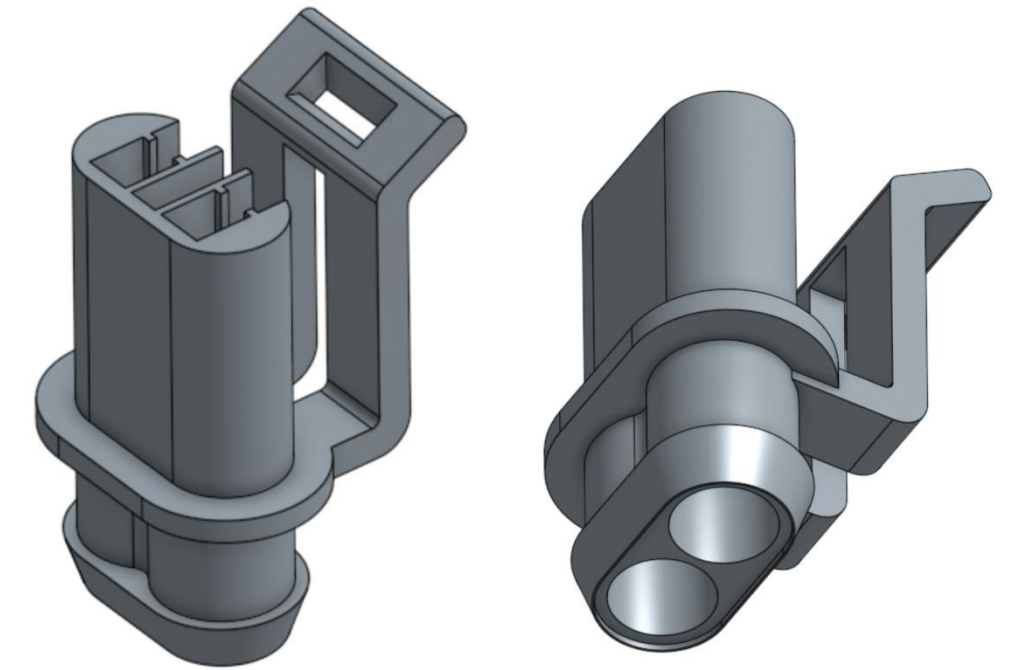

Fig. 2 Male Component
- Male component with a large clip (Fig. 2)